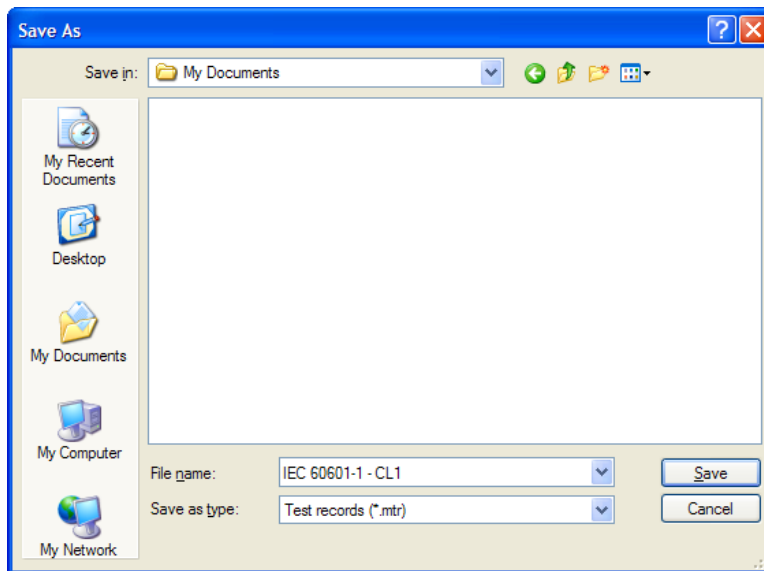

Figure 3-14. Save As Dialog Box
1. Click File Save on the main menu or click the save toolbar button (). The Save As dialog box opens as shown in Figure 3-14.